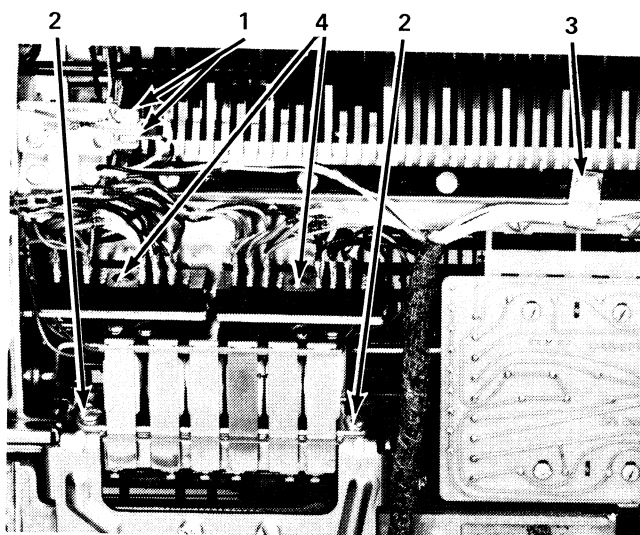

Figure 4-56. Keyboard Removal (Bottom of Keyboard)
4. Unplug the two keyboard mode contact terminals (No. 1, Figure 4-56).
5. Remove the two selection magnet mounting screws (No. 2, Figure 4-56).
6. Remove the screw and cable clamp (No. 3, Figure 4-56).